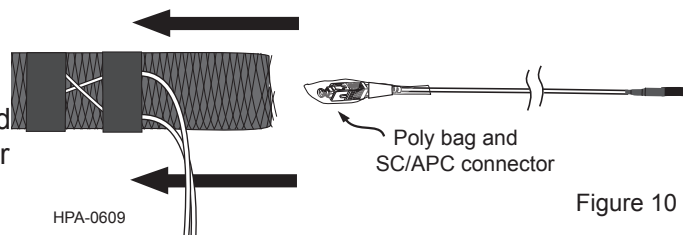

Figure 10
**Step 4:** Slide off the pulling grip to expose the indoor portion of the cable assembly and its polybag-protected SC/APC connector (Figure 10).